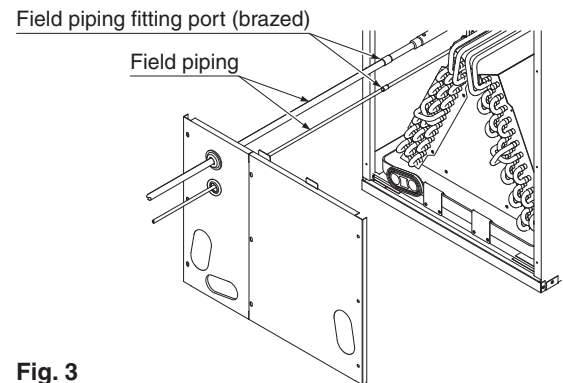

Fig. 3
2. Slide the front panel (lower) along the field piping until it is far enough away that it will not be affected by heat from brazing, as shown in Fig. 3.